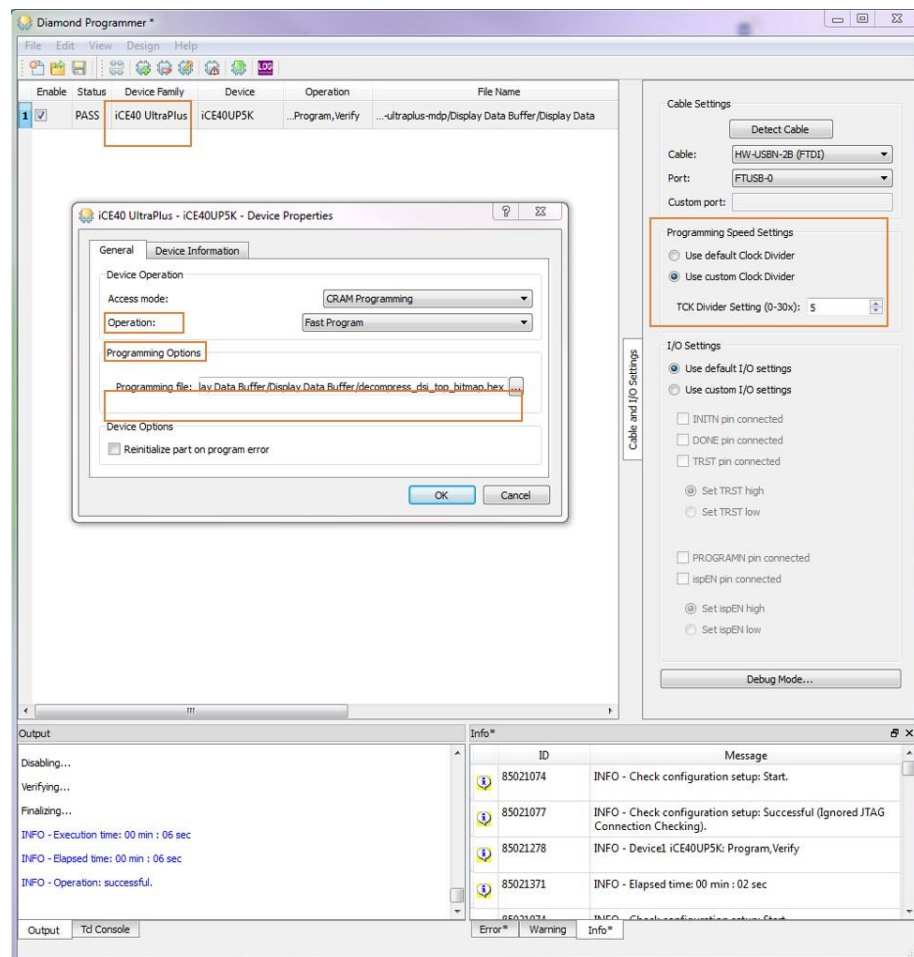

Figure 7.2. Programming iCE40 Devices on Board
6. Set **Device Family** to "iCE40 UltraPlus" and **Device** to "iCE40UP5K". Refer Figure 7.2 below.